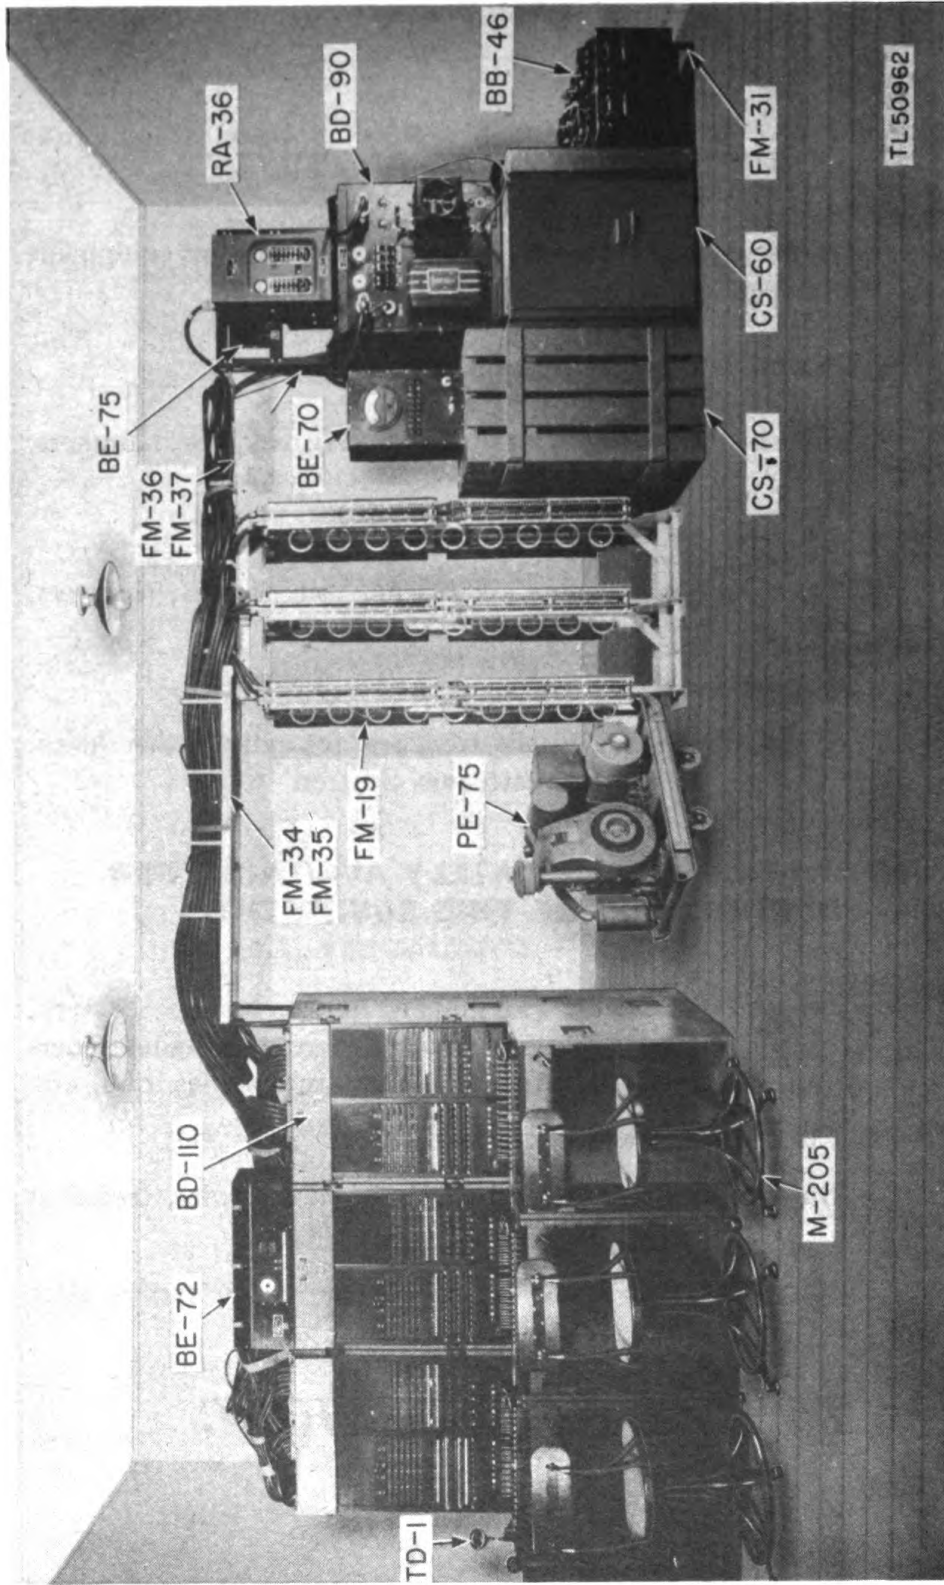

Figure 1. Telephone Central Office Set TC-10, assembled.
b. The equipment (fig. 1) may be installed any place under cover (par. 7). A complete installation, up to the point of connecting incoming lines, can be made in 6 hours or less by a crew of 12 men.